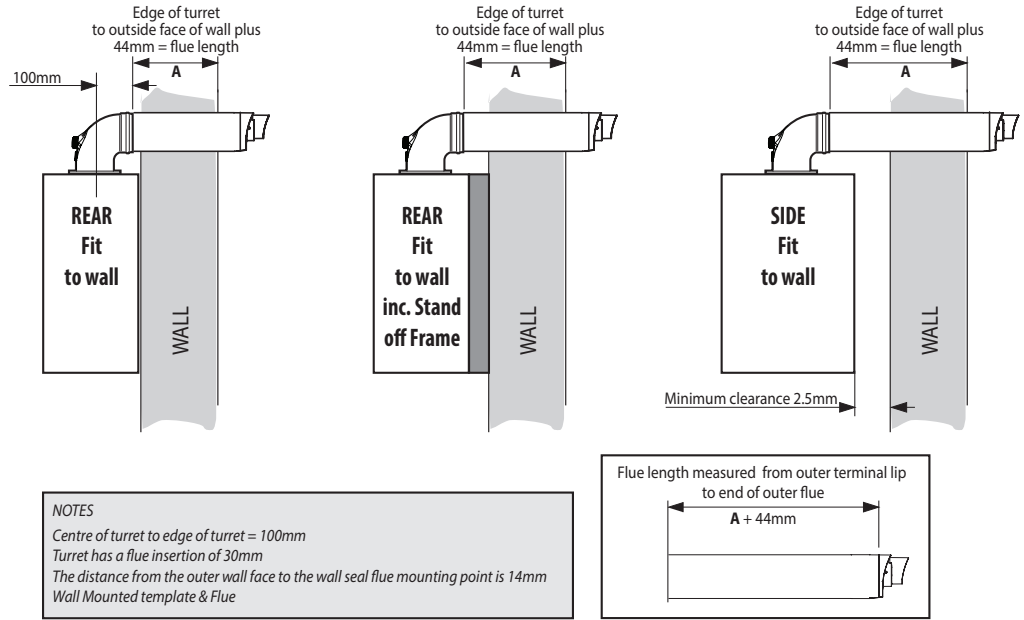

FIGURE 2
1. Measure the required cut flue length (A+44mm). If inside the dimensions shown in Figure 2 "1 Piece 600mm" proceed.